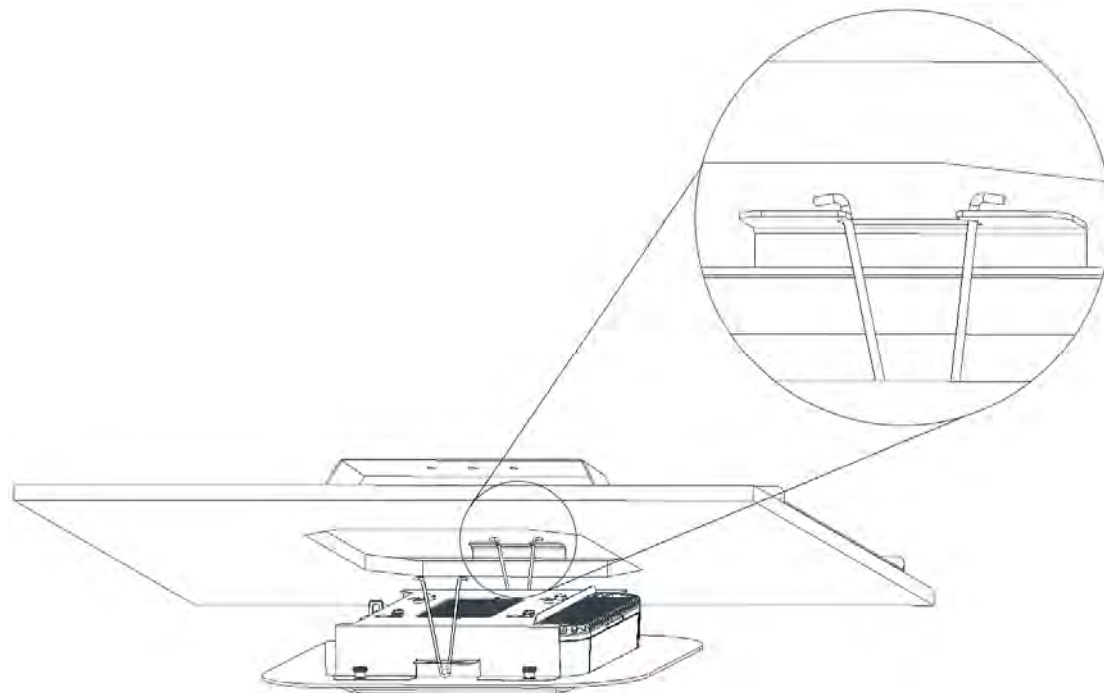

Figure 7 - Assembly of Trim to Backbox
Step 7 - To complete the installation, attach the Ethernet cable to the access point. Then compress the torsion spring on one side of the trim assembly and place it into the opening of the spring retainer on the tile bridge, as shown in Figure 7. Repeat the same procedure for the second torsion spring to the other spring retainer. To complete the assembly push the trim up toward the ceiling tile, the torsion springs will draw the trim up tight against the tile.